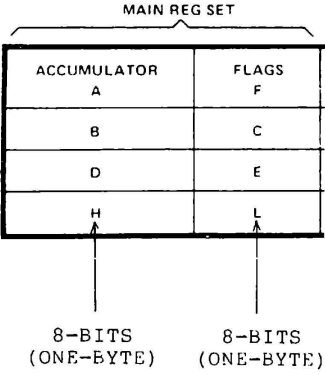

Fig 5-1
To determine the legality of LD HL,BLANK, you need to know two facts: 1) is there an H and an L register which can they be paired and 2) is the instruction allowable. To determine the first fact, turn to Appendix C and find the page titled Z-80 CPU REGISTER CONFIGURATION. Yes, near the top of the page under MAIN REGISTER SET you see H and L. The Z80 REGISTER CONFIGURATION is also shown in fig 5-1 (and fig 5-2). Now look in Appendix C for the page with the title 16-BIT LOAD GROUP 'LD' 'PUSH' and 'POP'. Find SOURCE at the top of the chart then REGISTER below SOURCE. Under REGISTER the fourth entry over from the left contains HL, thus H and L may be paired. But are H and L being used as a source in the instruction LD HL,BLANK? No, the BLANK is being loaded into HL, therefore, HL is a destination. Looking on the left side of the chart, find DESTINATION then REGISTER. The fourth entry from the top (under REGISTER) is HL. So HL can be used as a destination. Can an immediate value be loaded into HL? Travel from left to right in the row labeled HL until you come to the column labeled IMM.EXT (immediate extended). At the intersection of the row and column, there is value (21). A box with a value in it means that the instruction is allowed. Each "n" in the box stands for one byte. The upper "n" is the value to be loaded into L, and the lower byte is the value to be loaded into H.